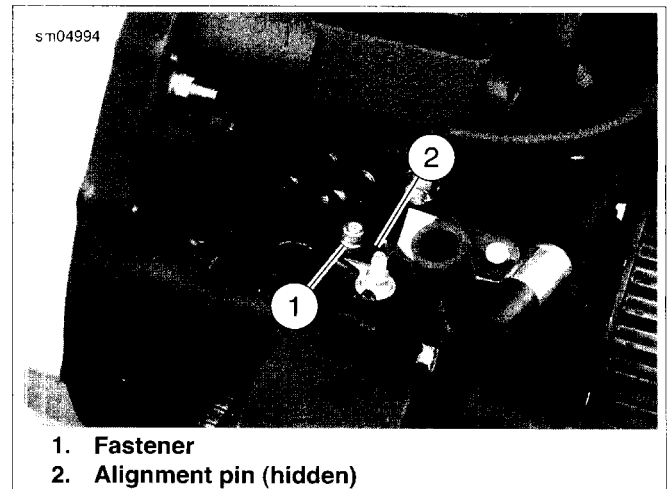
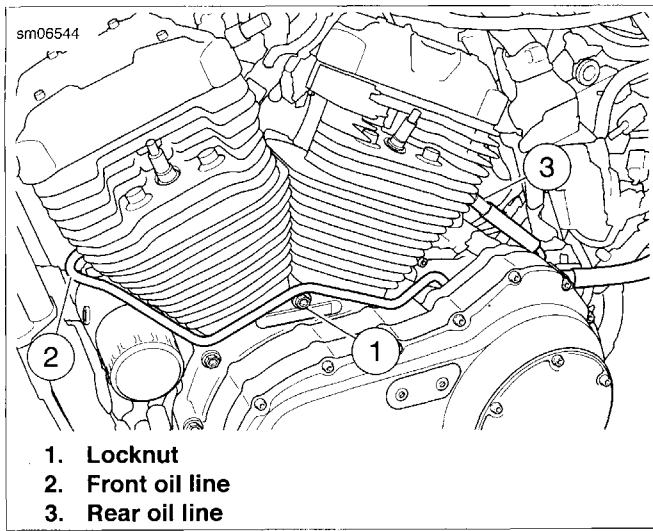

Figure 3-32. Rigid Oil Line Retainer
Figure 3-33. Cylinder Head Oil Lines
2. See Figure 3-32. Remove fastener (1) and raise retainer until alignment pin (2) is clear of bore in crankcase. Roll retainer out from beneath rigid oil lines to remove.
3. See Figure 3-33. Remove nut (1) and washer.
4. Separate front oil line (2) from cylinder head using OIL LINE REMOVER, 3/8 IN. (Part No. HD-49096).
5. Separate rear oil line (3) from cylinder head using OIL LINE REMOVER, 3/8 IN. (Part No. HD-49096).
4. See Figure 3-33. Connect front oil line (2) to cylinder head. Ensure it is securely held by the retainer clip.
5. Secure front line to crankcase with locknut (1) and washer. Tighten to 84-108 **in-lbs** (9.5-12.2 Nm).
6. See Figure 3-32. Roll retainer under rigid lines at rear of crankcase and orient so alignment pin is in bore in case. Ensure flanges on lines are on the manifold side of the retainer. Secure with fastener (1) and tighten to 84-108 **in-lbs** (9.5-12.2 Nm).
8. See Figure 3-33. Connect rear oil line (3) to cylinder head. Ensure it is securely held by the retainer clip.